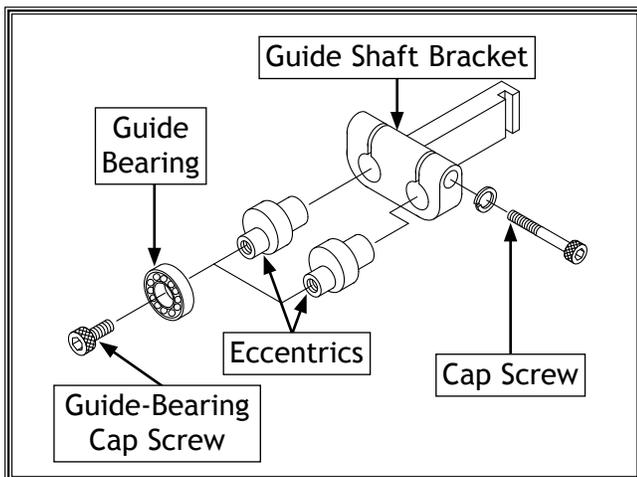

Figure 1. Blade support assembly.
3. Remove guide-bearing cap screws and guide bearings (see Figure 1).